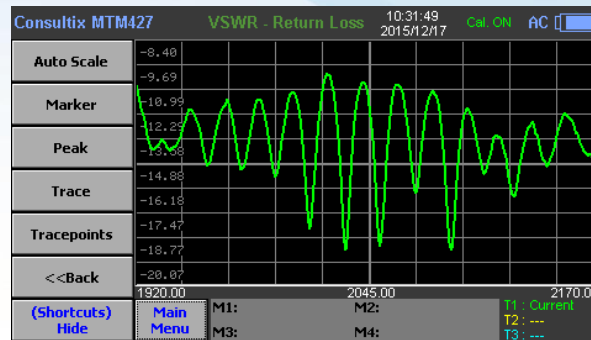

Figure 39 SiteWizard VSWR Curve
4. **Main Menu > Shortcuts**, click “Auto Scale” for adjusting curve appearance as shown in **figure 39**